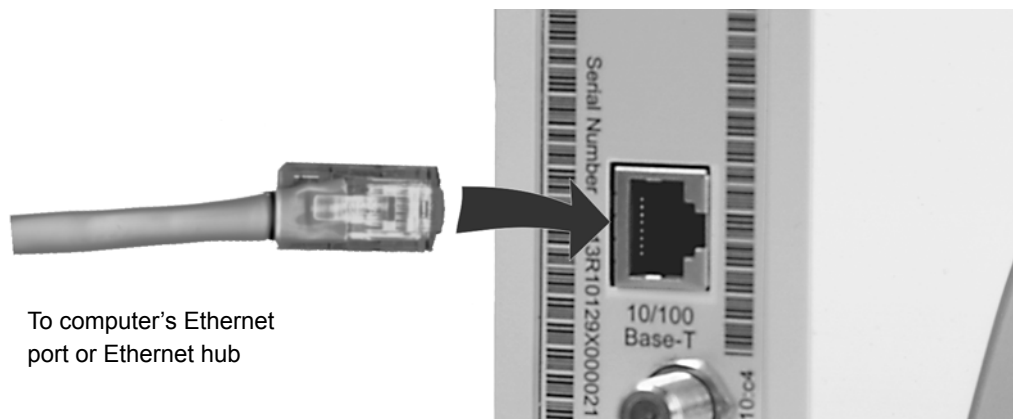

Figure 5-3 **Subscriber Ethernet Connection**
2. Plug one end of the Ethernet cable into the RJ45 socket labeled **10/100Base-T** on the Indoor Unit, as illustrated in *Figure 5-3*.